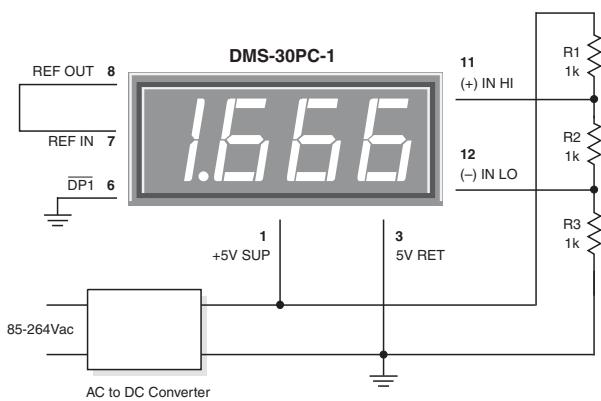

Figure 3. Differential Input Configuration
**2. Differential Input Configurations:** Differential measurements can be made with all DMS-30PC meters. Figure 3, though not a practical real-world application, uses a voltage divider to demonstrate the concept of a differential input signal. Be careful not to exceed the  $\pm 2V$  common mode voltage limitation for 5V-powered meters.